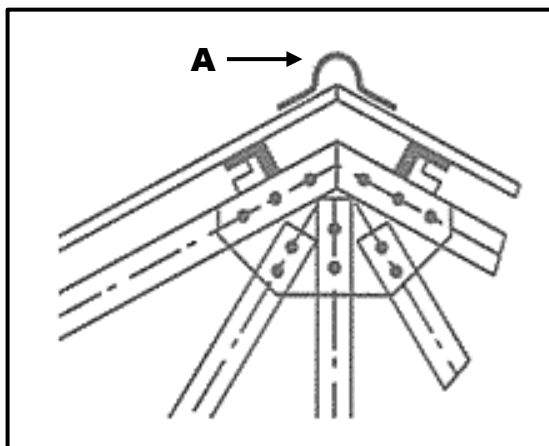

FIGURE 5.5
5.5 Identify part **A** shown in FIGURE 5.5 below.